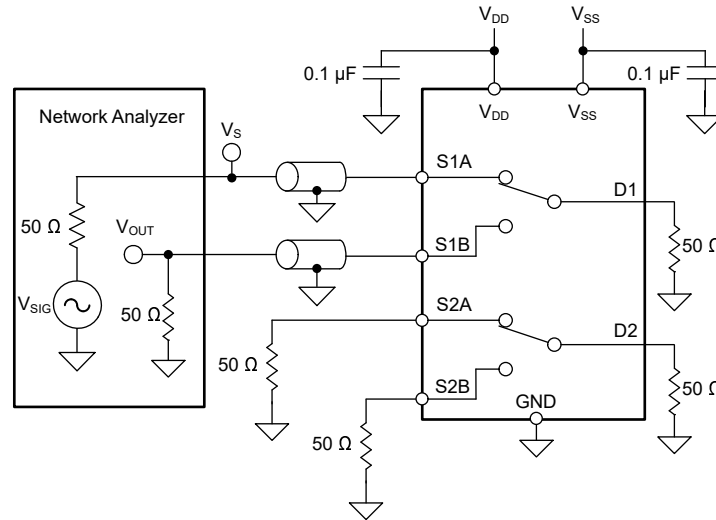

Fig 7-15. Intra-Channel Crosstalk Measurement Setup
1. Intra-channel crosstalk ($X_{TALK(INTRA)}$): the voltage at the source pin (Sx) of an off-switch input, when a 1- V_{RMS} signal is applied at the source pin of an on-switch input in the same channel, as shown in Fig 7-15.